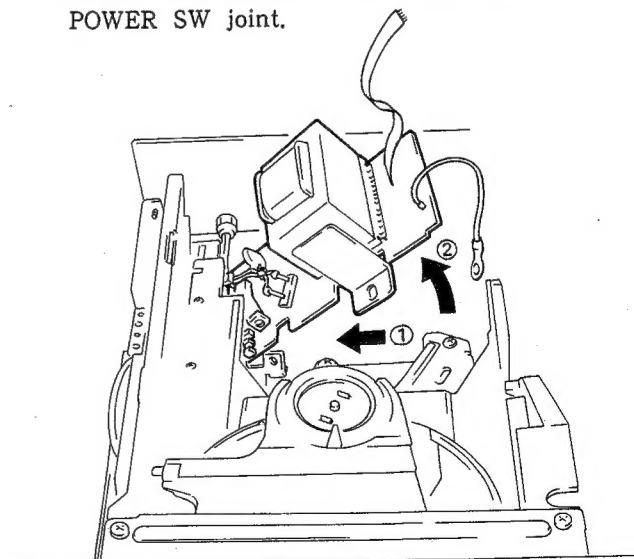

Fig. 2-3
5. Slide the transformer board assembly in the ① direction as shown in Fig. 2-3, and stand up the transformer board assembly in the ② direction while making sure that there is no contact with the servo mechanism assembly and POWER SW joint.